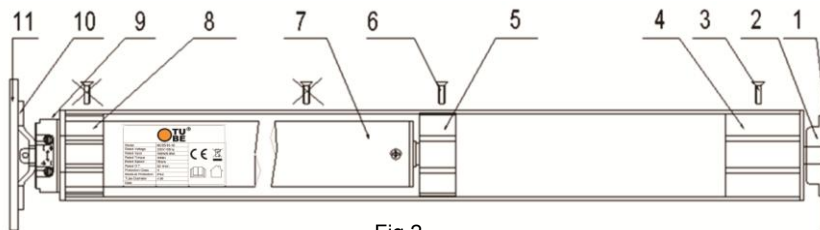

Fig.2
9. Mounting scheme. Refer to Fig.2